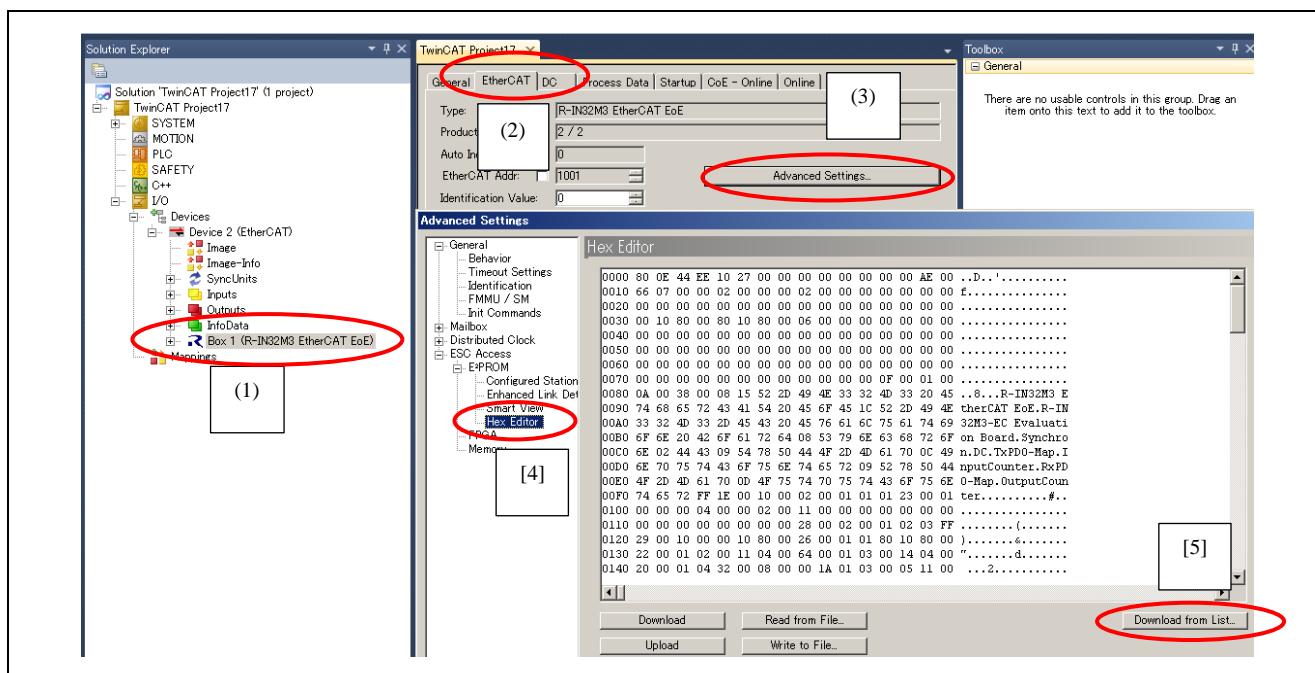

Figure 7.4: EEPROM rewriting procedure 1
(1) Double click on [Box 1], the panel as shown in Figure 7.4 will be displayed.
(2) Select [EtherCAT] tab
(3) Click the [Advanced Setting] button.
(4) Select [ESC Access] ⇒ [EEPROM] ⇒ [Hex Editor]
(5) Select [Download from list].
(6) Select [Available EEPROM Description].